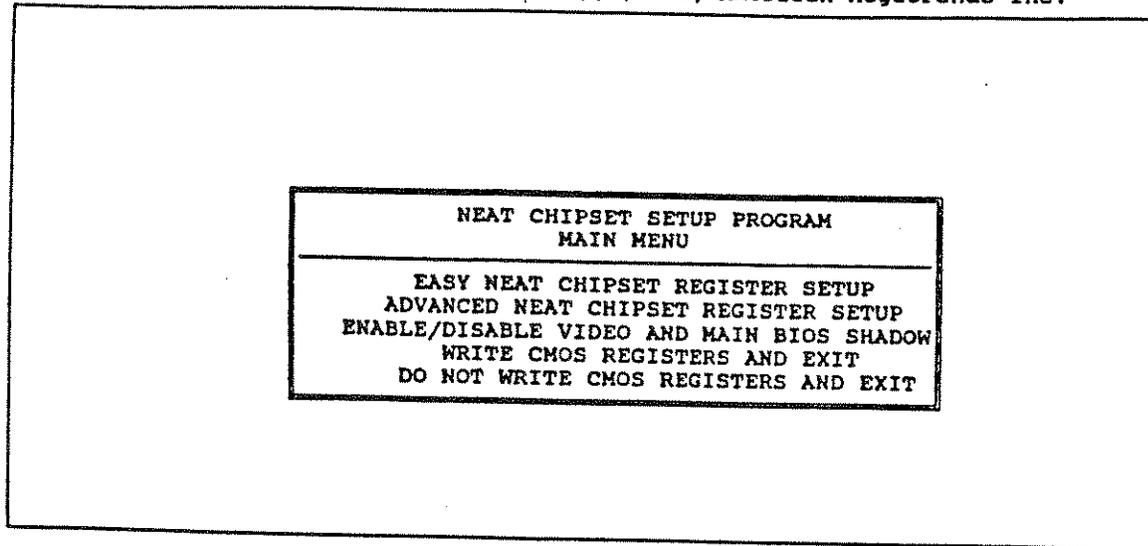

Fig. 4-2
- Select "RUN XMOS SETUP" using the ↓ key, press ENTER, Fig. 4-2 will be displayed, select the first line, a page with hints will be displayed, press ENTER, Fig. 4-3 will be displayed.
- Proceed with the next two lines of Fig. 4-2 in the same manner, the appertaining parameters being given in Figures 4-4 and 4-5.